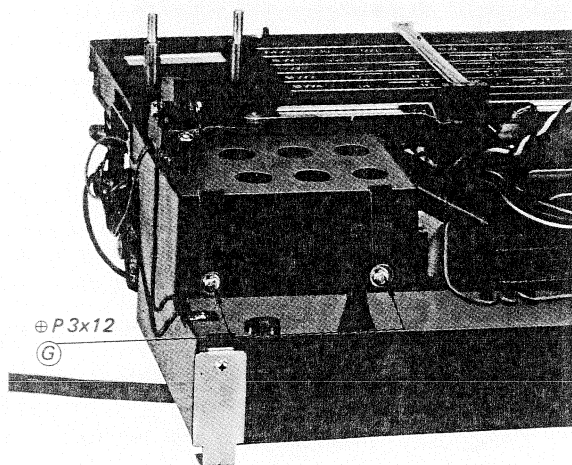

Fig. 2-8. Power supply circuit board removal
2. Remove the two screws marked ⑥ in Fig. 2-8.